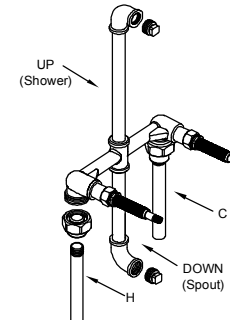

Fig. 5
- 4 A . Position valve body correctly in wall (see Fig. 5). UP marking is on up side and DOWN marking on down side.